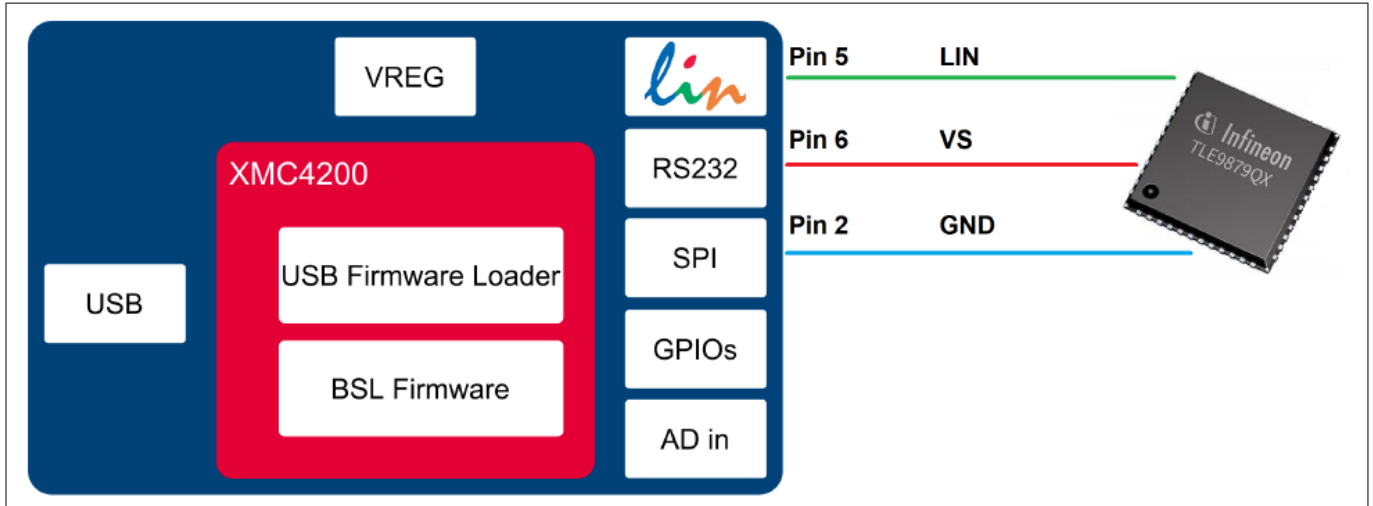

Figure 4 Normal LIN and FastLIN connection, without reset, target supplied by μIO
Figure 4 shows the minimum required connection from the μIO-Stick to the target device in order to establish a BSL communication over the LIN interface. This applies to both Normal-LIN and FastLIN protocols. To be able to establish a BSL connection, the target device either has to stay in BSL mode upon power up (fresh device), or a power cycling (VS - Pin 6) done by the μIO-Stick would be required.
- Off during Reset - the µIO-Stick integrated charge pump is switched off during the reset phase before the connection attempt is started, see also Figure 4 on page 9.